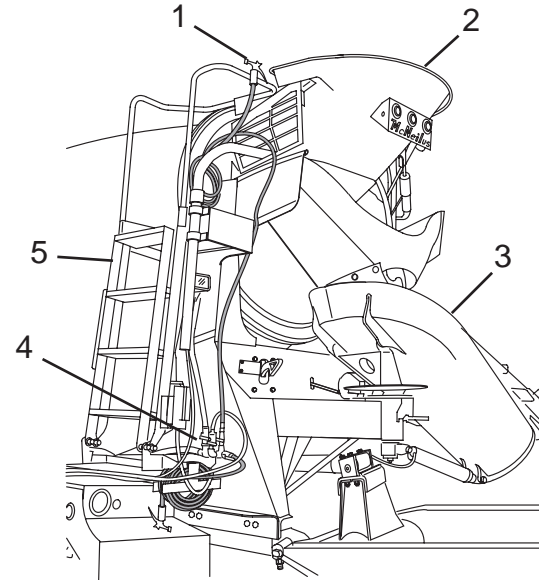

Figure 97
4. Unfold the access ladder (Figure 97, Item 5).
6. Turn on the wash-out hose valve (Figure 97, Item 4).
7. Using the wash-out hose (Figure 97, Item 1), start at the top and wash out the charge hopper (Figure 97, Item 2), the interior of the drum, the main chute (Figure 97, Item 3), and chute extensions.